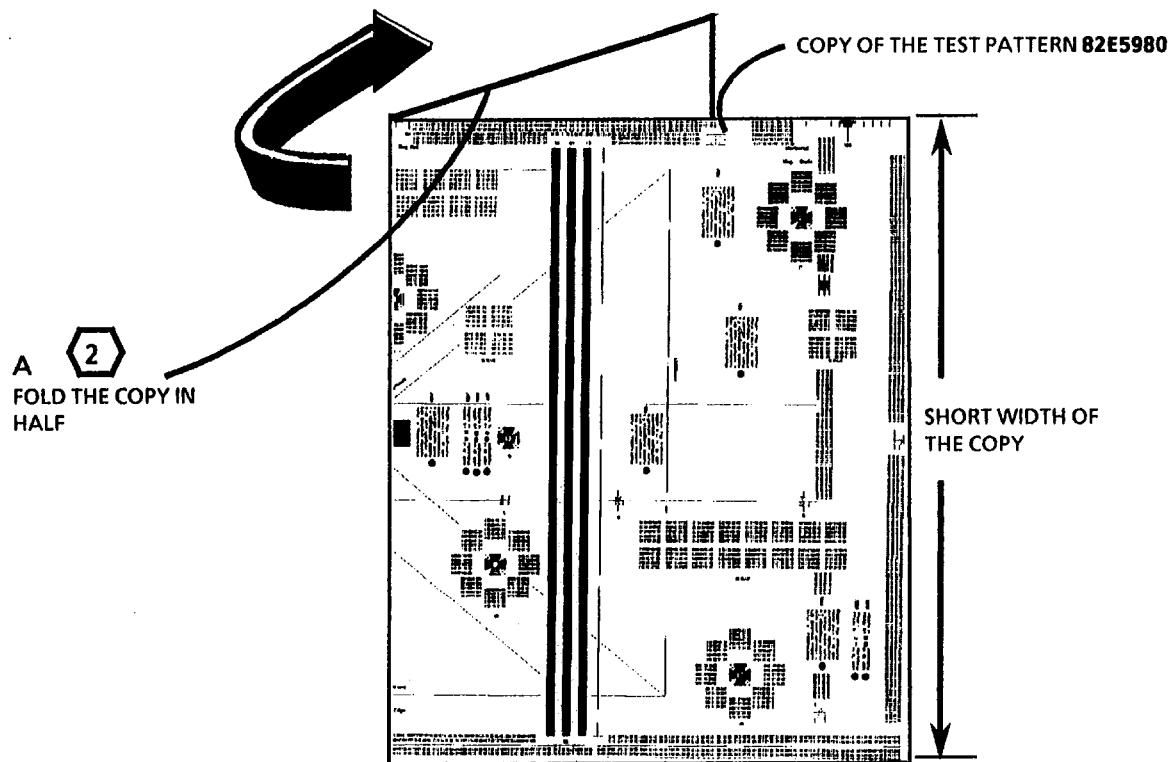

Figure 1. Folding the Copy in Half
2. (Figure 1): Fold the copy in half.